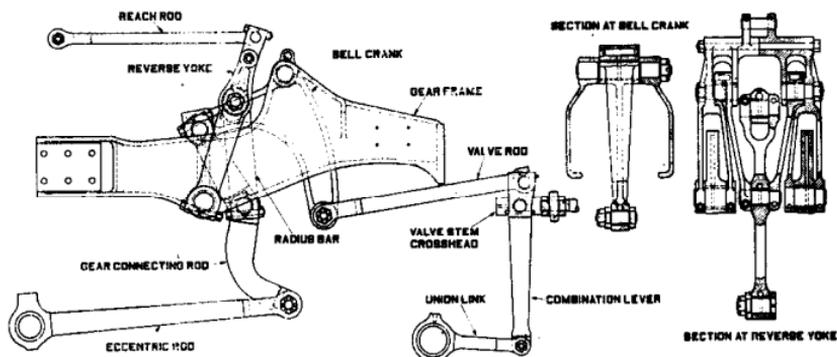

FIG. 54 - Section Through The Baker Valve Gear (inside admission).
**Baker Valve Gear**—This is an outside gear taking its motion from an eccentric crank attached to the main crank pin and from the main crosshead. This valve gear (Fig. 54, page 123) consists of the following parts :